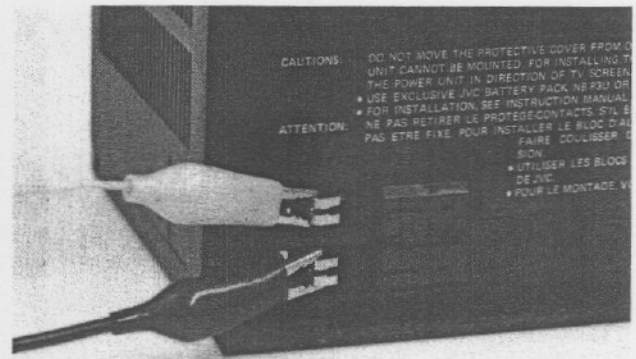

Figure 3-7. Power connections for service of the picture monitor
1. Connect a source of 12 Vdc to the battery terminals on the side of the unit as shown in Figure 3-7. Use insulated alligator clips and *observe polarity*.